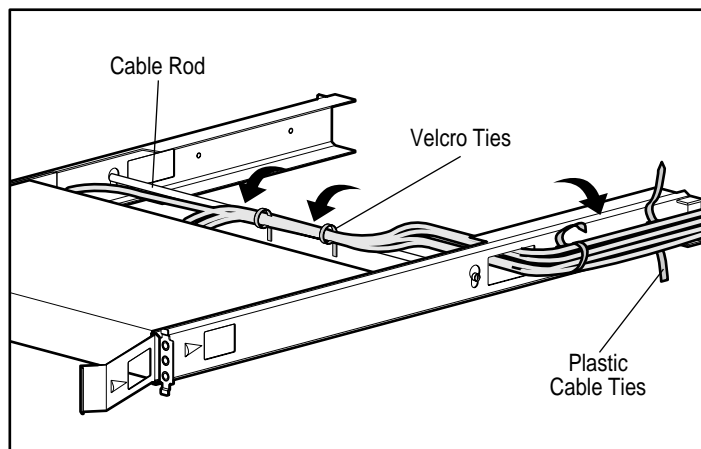

Figure 2-6. Bundling cables with cable ties
3. Repeat step 2 for all remaining computers to be connected to the Keyboard/Monitor/Mouse Switch Box. Bundle the cables to the cable rod with Velcro cable ties. Then route the cables out the slot in the rack-mount bracket. Use the plastic cable ties to bundle the cables. See Figure 2-6.